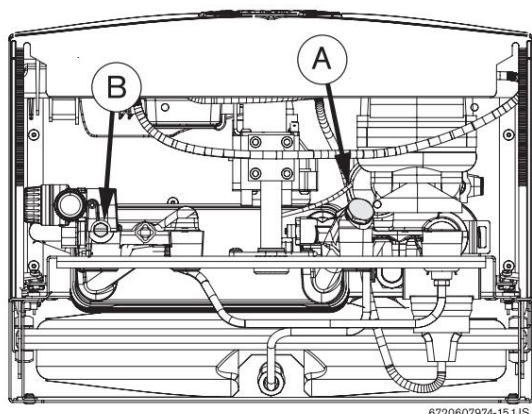

Fig. 35
B Remove the cover (Fig. 35, Item A).
- B Remove the drain plugs (Fig. 35, Item B).